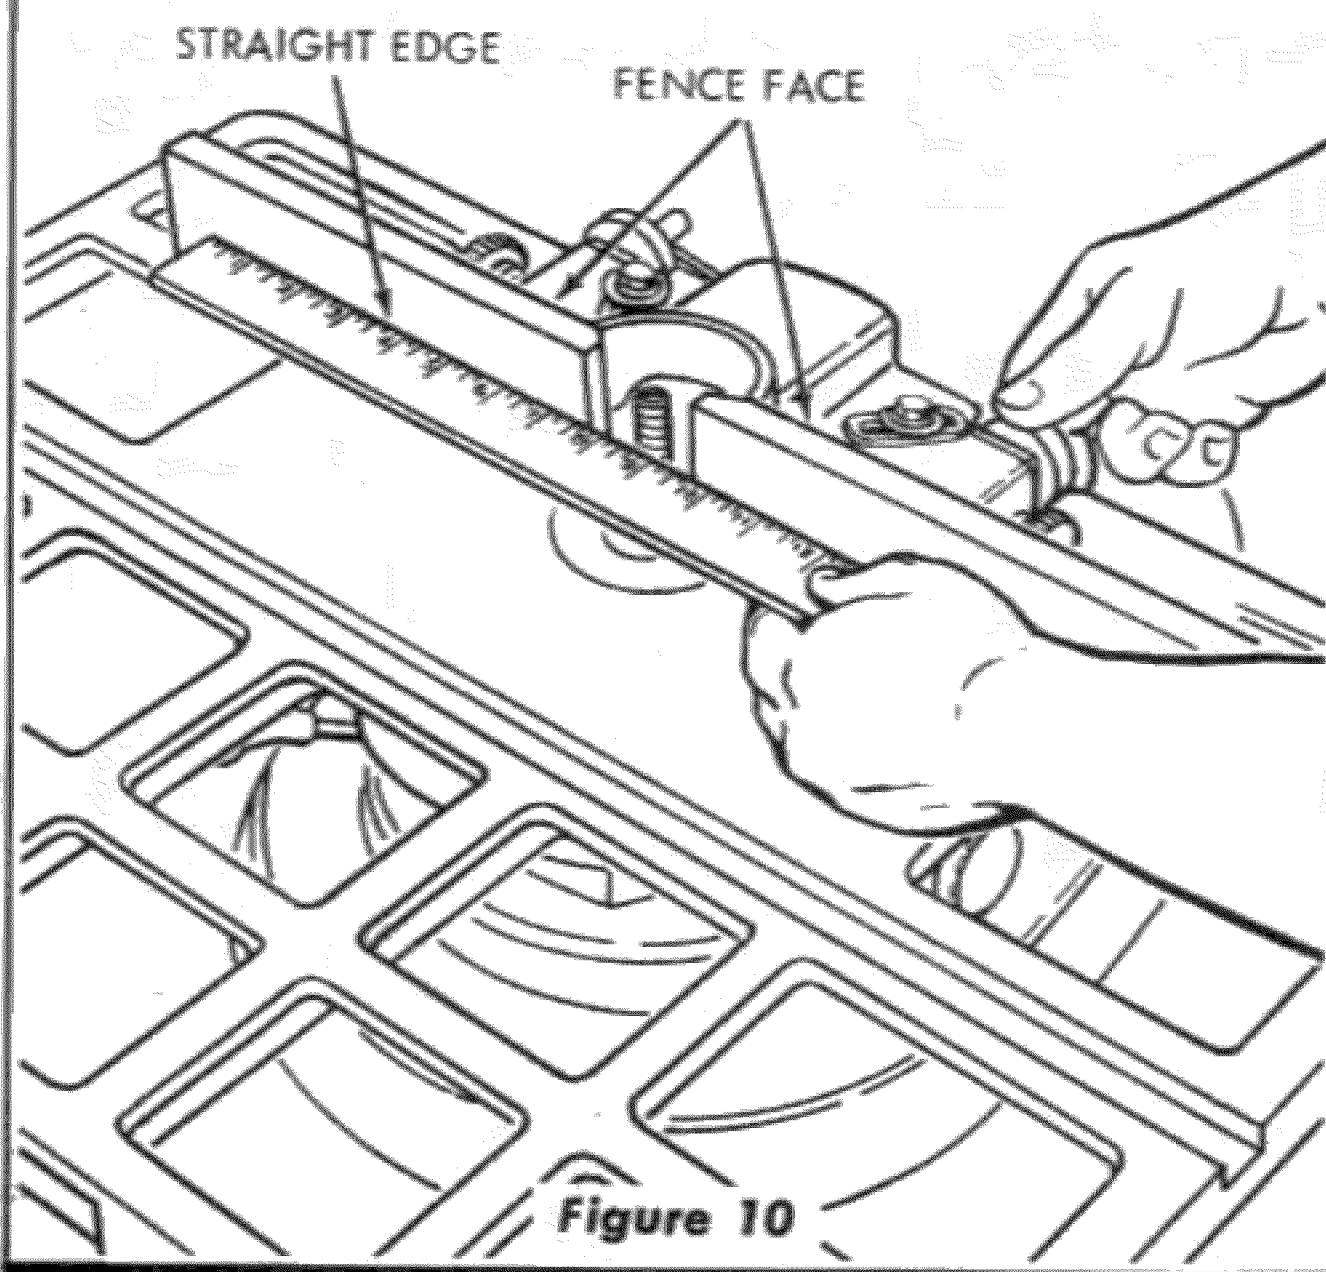

Figure 10
5. **Set the fence faces** so the cutter projects far enough beyond them to produce the desired depth of cut. If the cutter is set to remove only a portion of the edge of the work piece, the two fence faces should be set even with each other. (See figure 10.)
1. Position fence faces in the same plane by using a straightedge and adjusting the knurled adjusting knob. (See figure 10.)